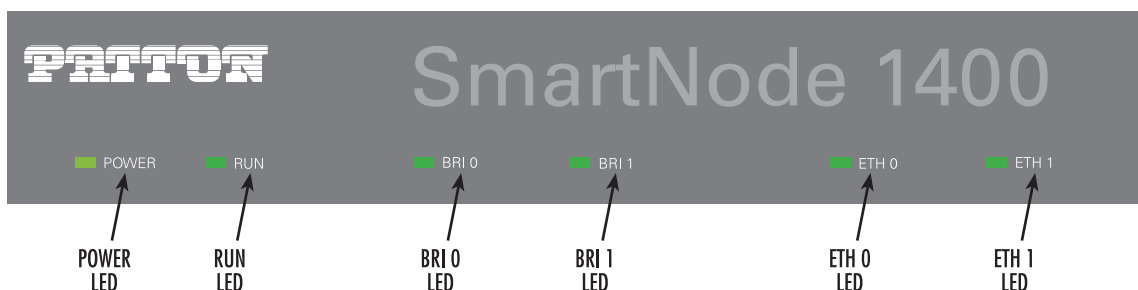

Figure 54. SmartNode 1400 front panel LEDs
4. Verify that the green *Power* LED is lit (see figure 54).